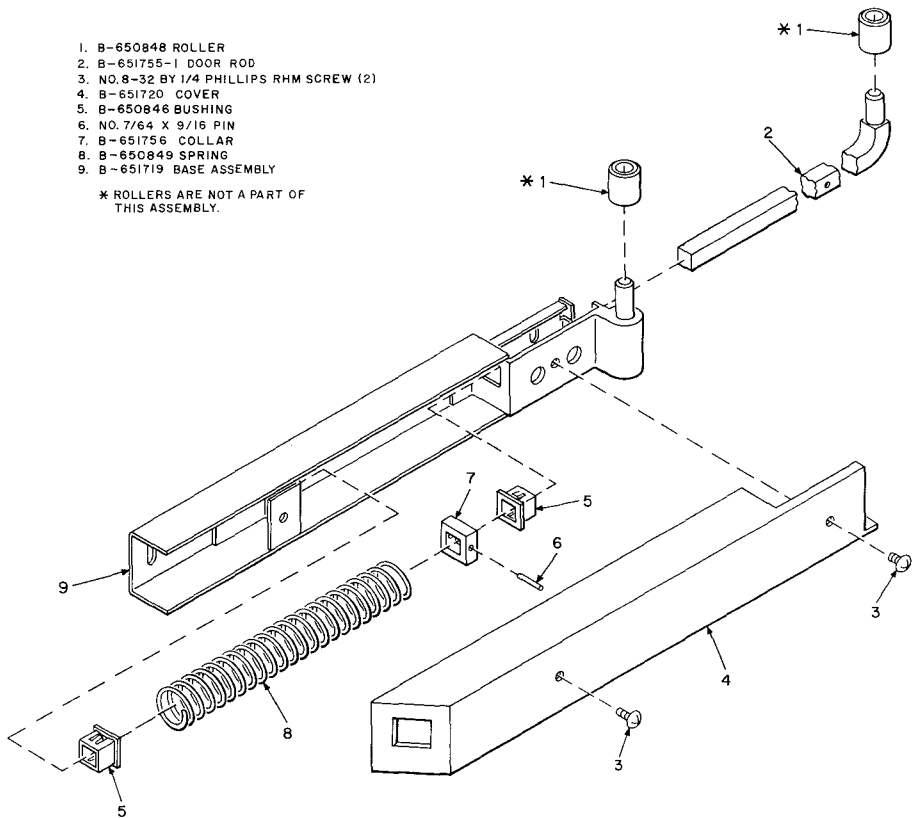
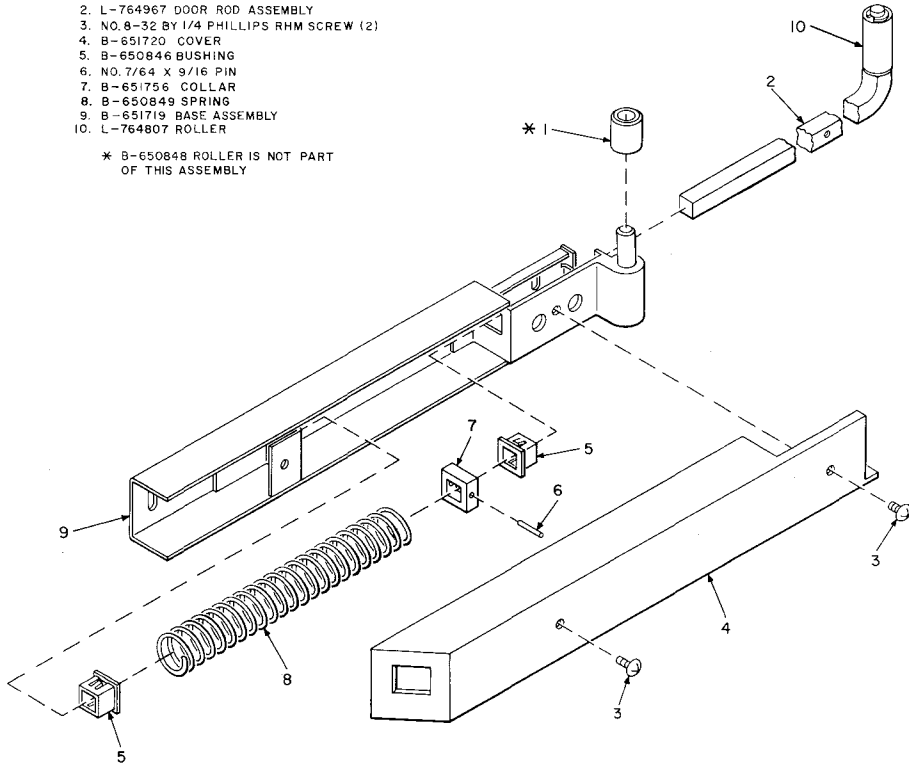

Fig. 26—B-651721-1 Door Guide Assembly
Fig. 27—B-993172-1 Door Guide Assembly
(a) Remove two screws and B-651720 cover (Fig. 26 and 27).
4.49 The KS-19425 booth will have either a B-651721-1 short-roller door guide assembly (Fig. 26) or a B-993172-1 long-roller door guide assembly (Fig. 27).